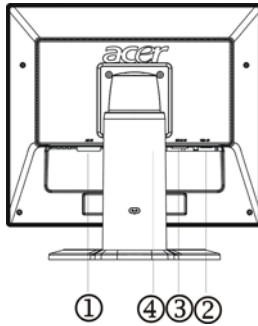

Figure 2 Connecting Cables
2. To rotate the screen, set the screen position to the highest height, as per Fig. 2.